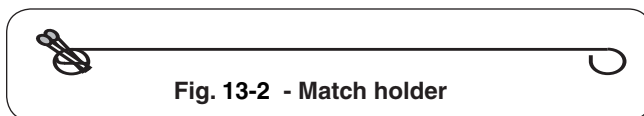
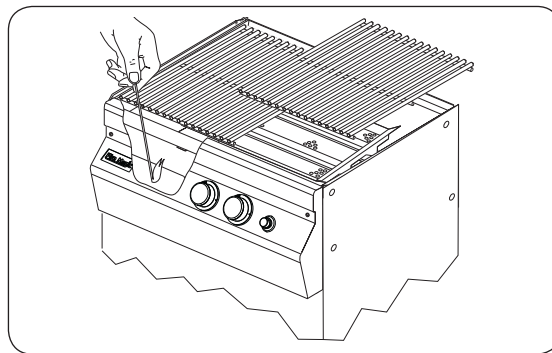

Fig. 13-2 - Match holder
Fig. 13-3 - Manual lighting
2. Insert either a burning long-barrel butane lighter, a burning long-stem match, or a burning match held by a wire extension holder (Fig. 13-2) through the cooking grids to the burner (Fig. 13-3). For backburners, hold the flame against the perforated material of the backburner. For sideburners, hold the flame against the burner.
**REMEMBER:** FOR SAFE MANUAL LIGHTING, PLACE A BURNING MATCH OR BUTANE LIGHTER BESIDE THE BURNER - **THEN TURN ON THE GAS** (see Fig. 13-3).